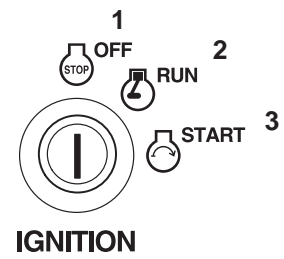

Figure 17
6. Turn the ignition key to Start to energize the starter. When the engine starts, release the key (Fig. 17).
3. Let the engine idle for 60 seconds (Fig. 17).
4. Turn the ignition key to off (Fig. 17).